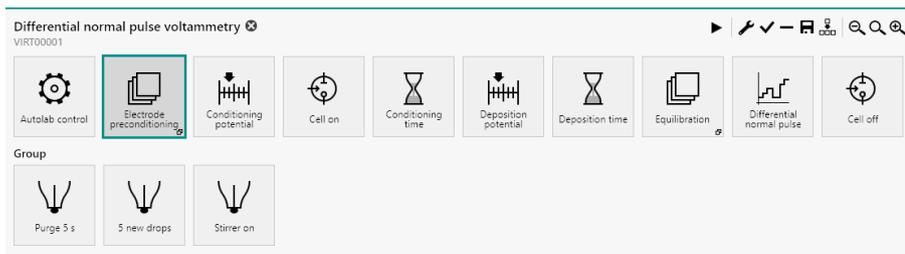

Figure 647 The Electrode preconditioning group
- **Electrode preconditioning:** this command group is used to create new mercury drops at the beginning of the procedure. The commands in this group are used to purge the solution for the specified duration, create the specified number of new drops and switch the stirrer on (see figure 647, page 544).